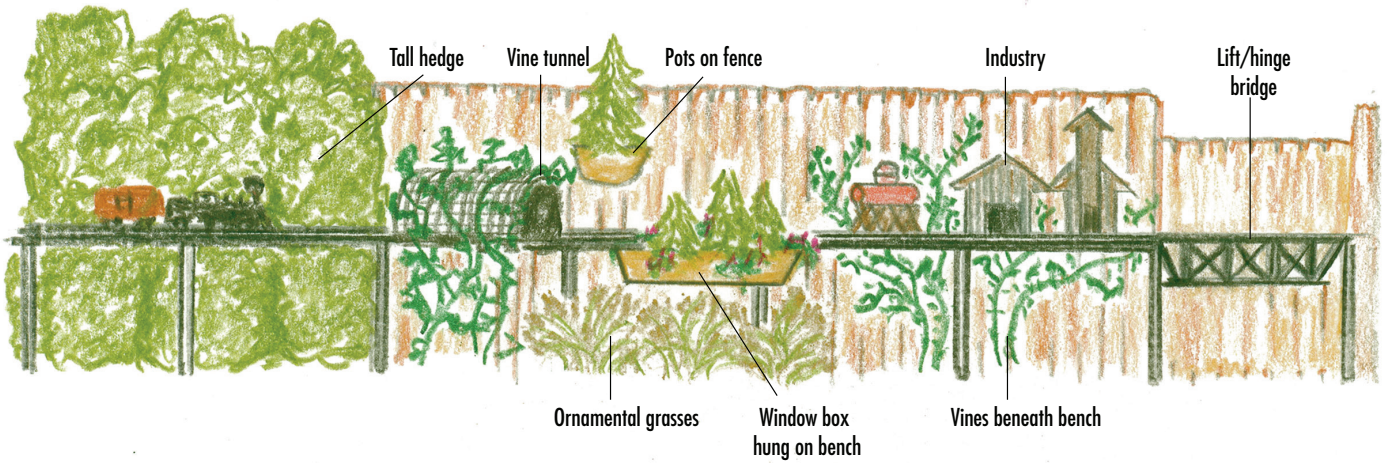

Figure 1
construction/planting choices, also sketched in figure 1. For example, Pete and Carol Comley's mostly benchwork railway needed access for the lawn mower, so they built an arched bridge over that opening in the lawn (photo 6). Then they planted their arborvitae hedge just behind the benchwork in this sunny spot and grew ivy vines on a shaded fence.
6. The Sunset Valley Railroad runs long trains on large-radius curves. Pete and Carol Comley mix up the benchwork look with several ideas found in Figure 1.